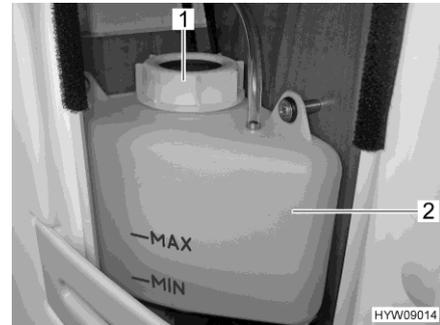

Fig. 174 Marking "MIN/MAX"
- Check if the fluid level is between the marks "MIN" and "MAX" on the compensator reservoir (Fig. 174,2).
- Open the rotary lid (Fig. 174,1) on the compensator reservoir.